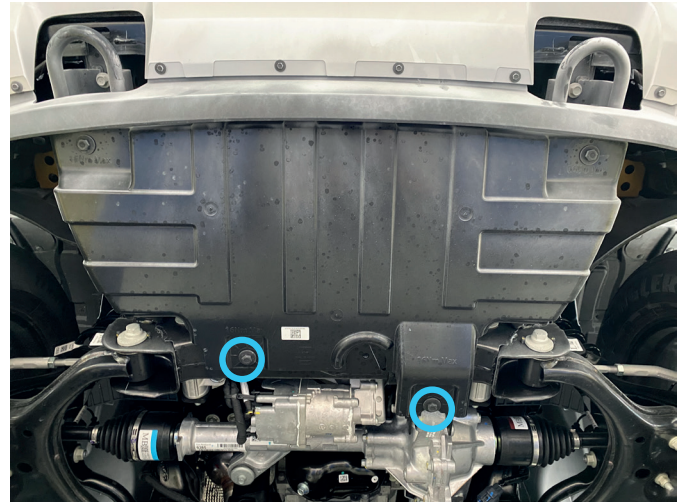

Fig. 2
****If the vehicle has radiator skid plate, loosen the rear bolts of radiator skid plate or bolts of RIVAL radiator skid plate 2111.1884.1.3 / 2333.1884.1 / 2333.1884.1.6 (fig.2).**